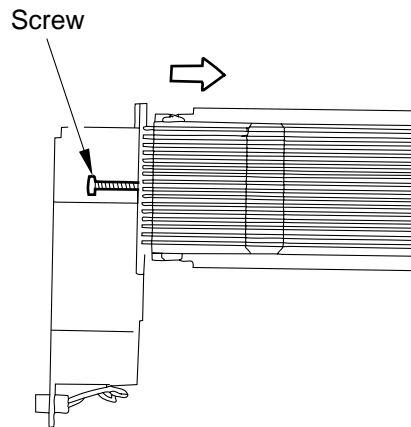

Figure 11-218
- 3) Loosen the mounting screw, and move the assembly in the direction indicated in Figure 11-218; then, fix it in place temporarily.